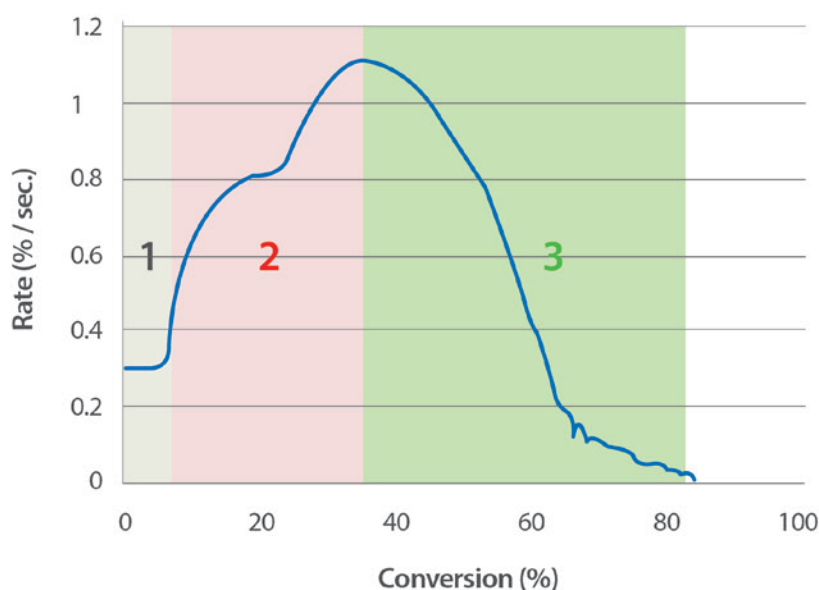

Figure 3: Graph profiling the rate of polymerisation during the UV photocuring process.
1. a constant normalised rate of classical radical chain (see Figure 3, Region 1)
2. a dramatic increase in polymerisation rate (auto acceleration) due to the Trommsdorff effect (Figure 3, Region 2)
3. a rapid decrease in the polymerisation rate as a result of radical isolation: vitrification (Region 3 of Figure 3).